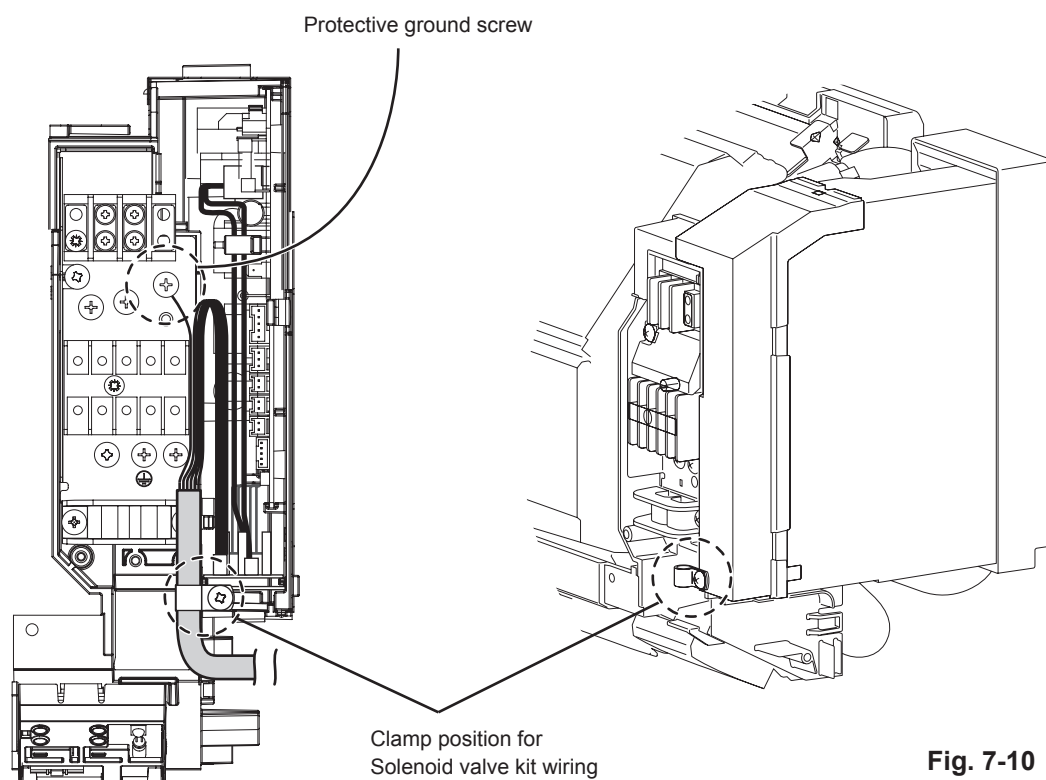

Fig. 7-10
- Clamp the wiring from the solenoid valve kit. (Fig.7-10)